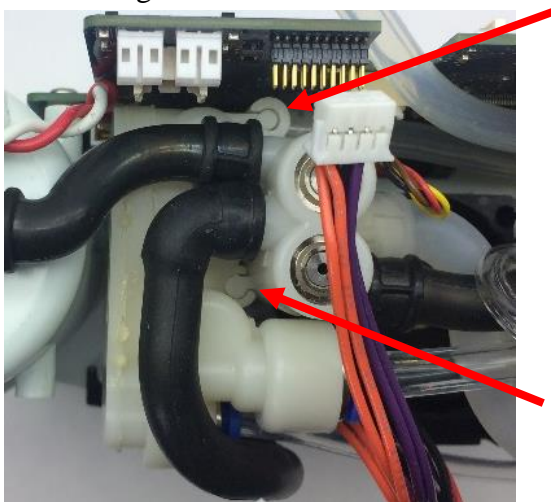

Figure 13: Manifold mating
3. Slide the manifold and tubing into the assembly as shown in Figure 11, ensuring that the wiring harnesses and Inlet Tube are routed under the Accumulator to Manifold tube and are brought to the front of the assembly. The Feed Waste Manifold should slide into the Product Manifold as shown in Figure 13.